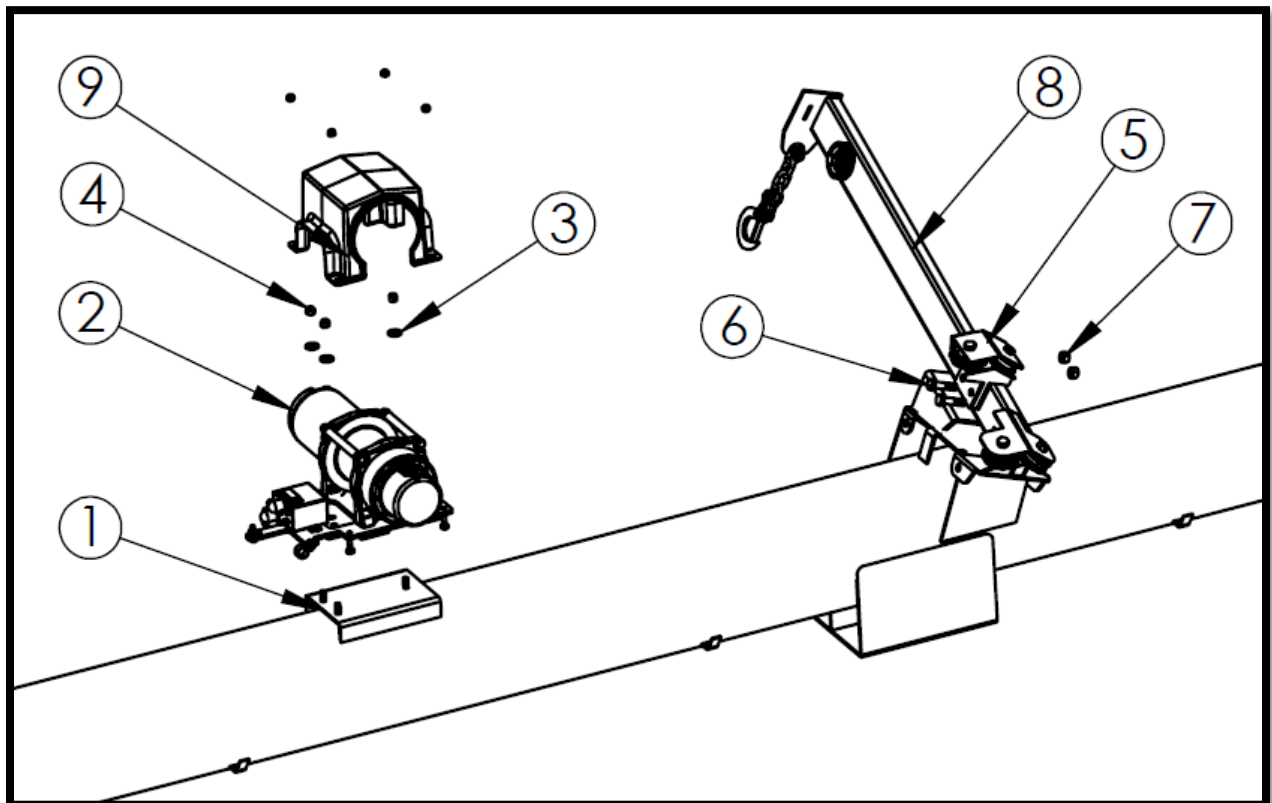

Figure 2: Installing the Electric Winch (MKX210, X210, HX210)
- Install the pulley guide onto the lift arm (see Figure 2). Remove winch guard before installing winch onto mounting plate. Ensure that the winch cable (not shown) feeds through the two lift arm pulleys (at the top of the lift arm and at the pulley guide).